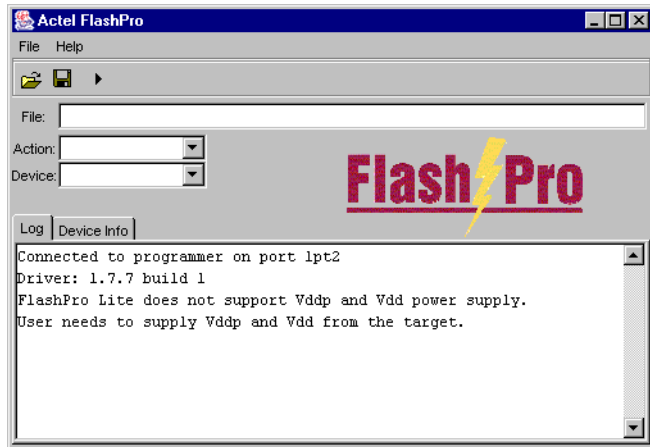

Figure 3-2. FlashPro: Successful Connection
4. **Click *Connect*.** A successful connect or any errors appears in the Log window, as shown in Figure 3-2. If you encounter failures, please refer to “Error Messages & Trouble Shooting Tips” for more information.